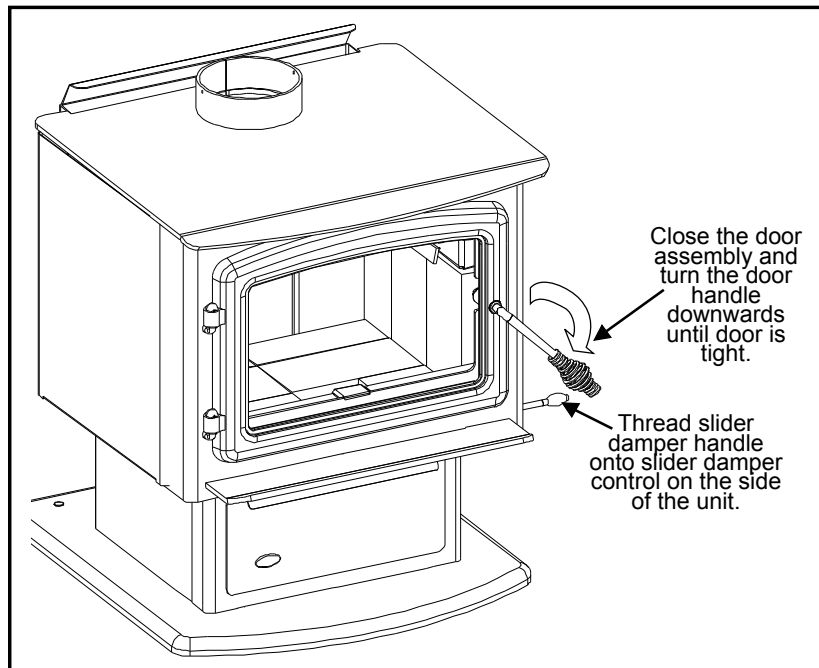

Figure 52: Closing Door.
3. Open and close the door, applying pressure down, to ensure the door assembly is properly seated on the hinges. Refer to Figure 52.